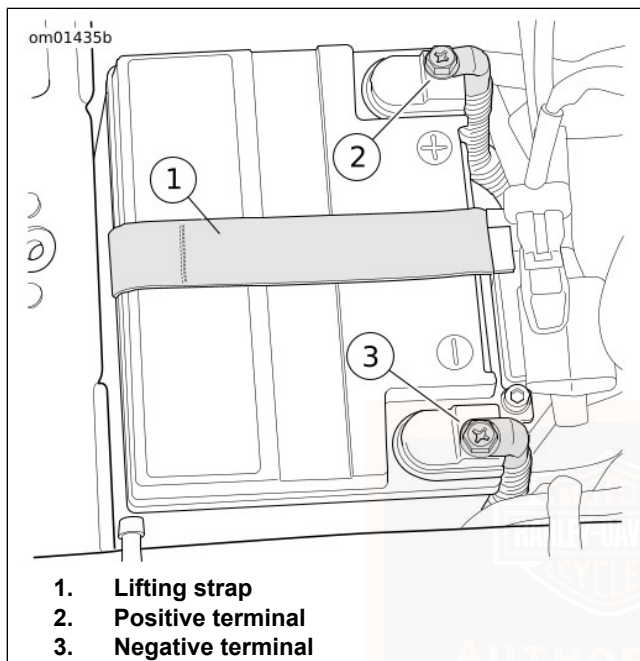

Figure 92. Battery Compartment
9. See Figure 92. Disconnect both battery cables, negative battery cable first.
10. Pull up lifting strap (1) to raise battery. When battery is extracted far enough to get a good grip, grasp battery and remove the rest of the way.
2. See Figure 92. Place the battery into the battery tray, terminal side forward.